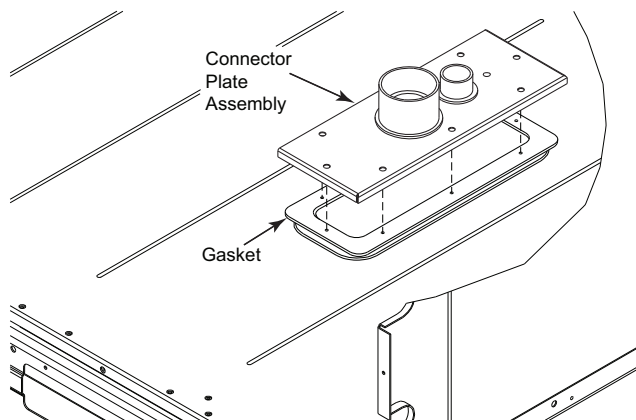

Fig. 30 — Completing Installation of Thru-the-Base Option
3. Place the gasket over the embossed area in the basepan, aligning the holes in the gasket to the holes in the basepan. See Fig. 30.